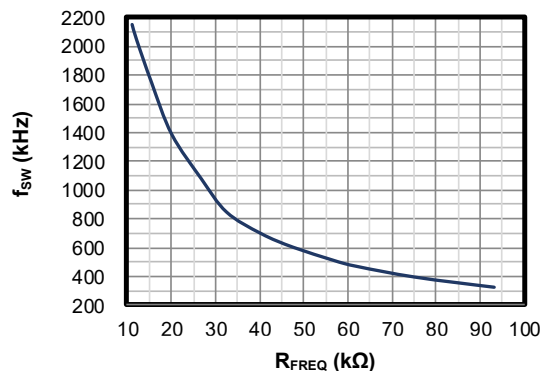

Figure 1: f_{SW} vs. R_{FREQ}
7. The MPQ4317's switching frequency (f_{SW}) can be configured by R3, the FREQ pin's resistor (R_{FREQ}). R3 can be estimated based on the relationship between f_{SW} and R_{FREQ} (see Figure 1).